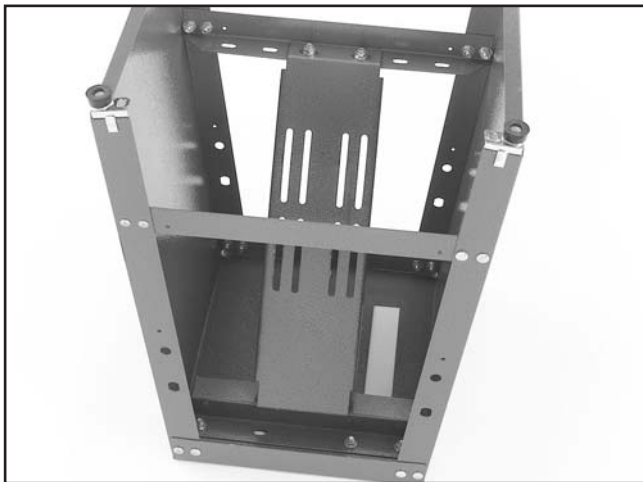

Figure 11. Top brace to stand top.
- Attach the motor mounting plate with the top panel "S" brace to the inside of the stand as shown in **Figure 11**.